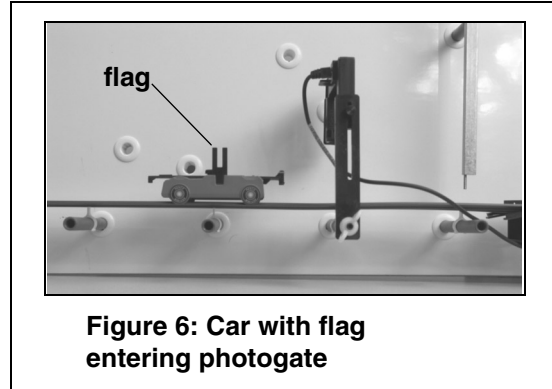

Figure 6: Car with flag entering photogate
1. Place a Photogate on the last peg of the Roller Coaster track. This will allow you to measure the speed of the car just before it hits the pendulum (Figure 6).
3. Insert the flag into the car (Figure 6). When the car passes through the photogate, the flag must block the photogate beam. If not, adjust the photogate up and down, so that the flag blocks the photogate beam. The nuts on the photogate support peg allow the sideways position of the photogate to also be changed. (For more information, see the Roller Coaster Manual).